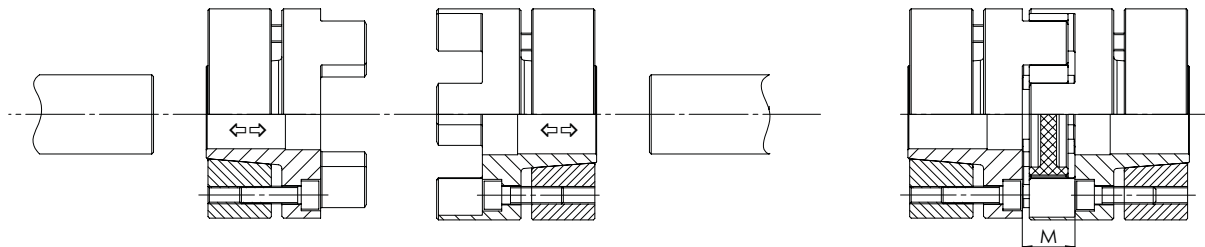

Figure 4-6 - TRASCO® ES: GESA-GESAP mounting
- Check the driving and driven hub to achieve the value M (see FIGURE 4-6 and TABLE 4.1 - M VALUE)